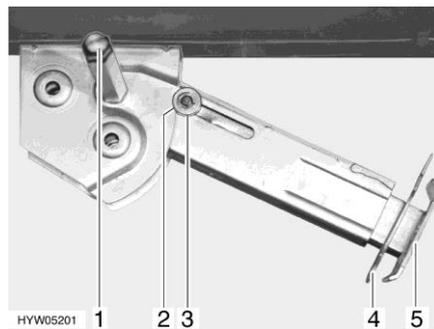

Fig. 26 Steady leg
- Place the socket spanner on the hexagon nut (Fig. 26,1) and rotate until the steady leg is in a perpendicular downward position.
- Remove the splint (Fig. 26,4) out of the support foot extension (Fig. 26,5).
- Place the socket spanner on the hexagon nut (Fig. 26,1) and rotate until the steady leg is clear of the ground.
- Push in the support foot extension (Fig. 26,5) and insert the splint (Fig. 26,4) in the drilled hole in the support foot extension.
- Rotate the hexagonal nut (Fig. 26,1) with the socket spanner until the steady leg has swung upwards and the guide disc (Fig. 26,3) has completely retracted into the notch (Fig. 26,2).